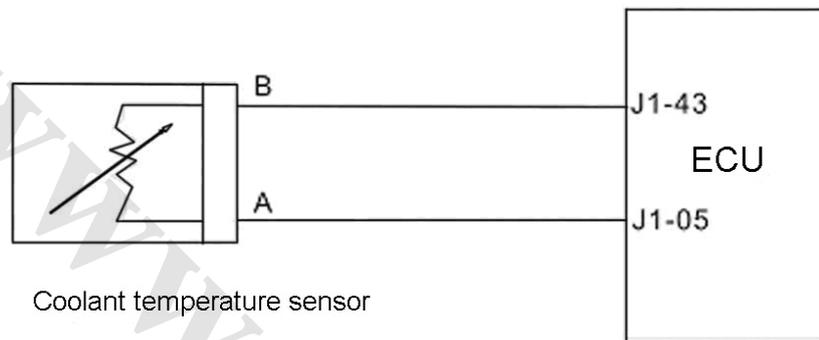

Fig. 1-6
(1) Function: To provide information on coolant temperature. To provide water temperature signal for the ECU, and to control ignition timing and fuel injection pulse width at start, idle speed, and normal operation.
(2) Structure and principle: Made by a thermistance with NTC. The resistance value will decrease with the increase of the coolant temperature (not a linear relation). The thermistance with NTC is installed within a copper sleeve. With a voltage division circuit, the resistance value of the thermistance is converted into a changing voltage and then provided to the ECU, and then the change of water temperature can be monitored (internal structure of ECU).
(3) Connection of wiring diagram (Fig. 1-6)
(4) Trouble diagnosis: The ECU will monitor the sensors, actuators, power amplifying circuit and detecting circuit. In case of any of the following situations, like unreliable battery voltage, unreliable air intake manifold absolute pressure signal, unreliable engine coolant temperature signal, fuel injector driving stage trouble, incorrect oxygen sensor trouble mark level, and fuel ration closed loop control closed, the fuel ration will be confirmed according to the basic fuel injection time stored in the ECU.
(5) Installation notes: The tightening torque of the oxygen sensor is 50~60N·m. Apply anti-rust oil to the renewed oxygen sensor to prevent difficult removal due to rust.
6. Electronic control unit (Fig. 1-6)